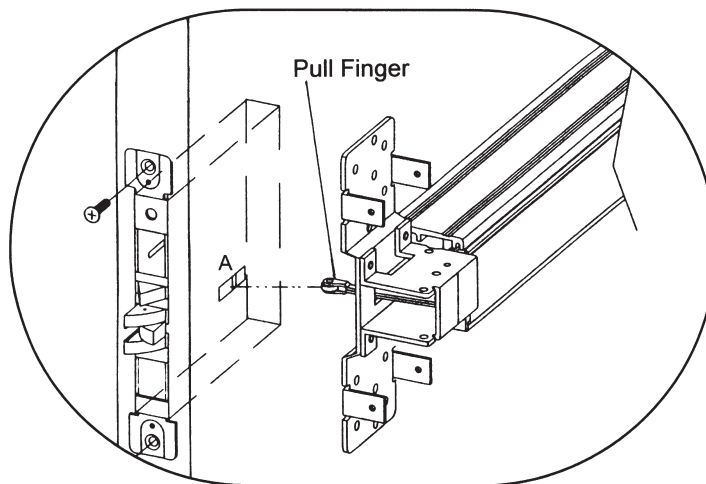
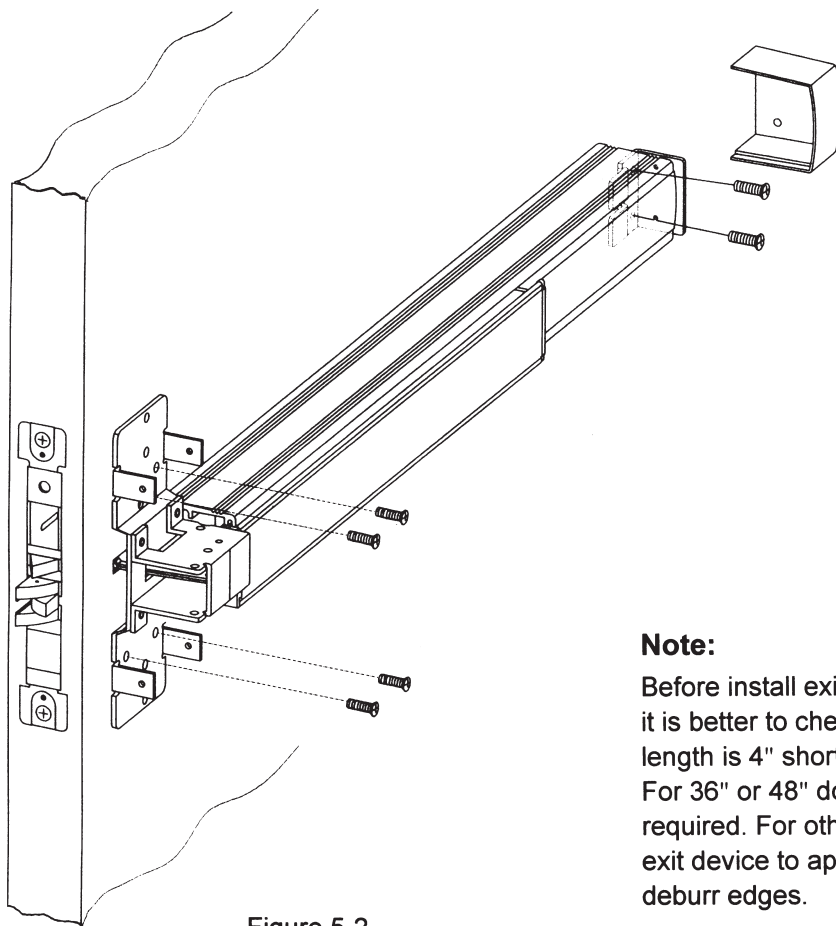

Figure 5-1
Figure 5-2
2. Hold the exit device up against the door. Insert the Pull Finger on the device chassis into the slot on the door and the lock case (see Figure 5-1), and make sure Pull Finger does not rub on the edges of the cutouts. Mount the exit device to the door with the supplied screws (see Figure 5-2).